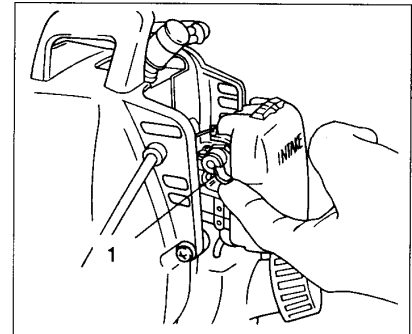

Fig. 2-2C
3. Make sure throttle trigger is not locked. Do not use throttle lock (3).
4. Lift up start control lever (1) to vertical or start position. Do not push it further or the lever may break. (AST-210) (Fig. 2-2C)